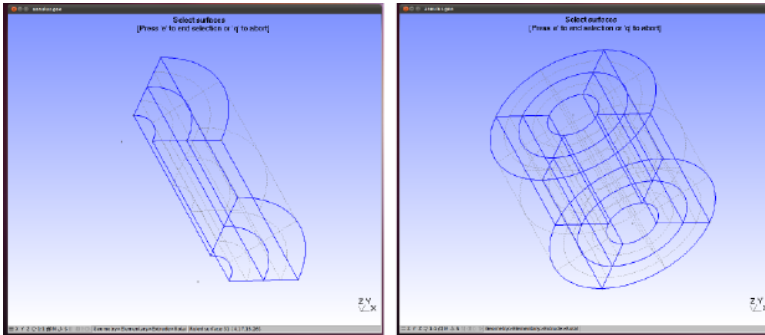

Figure 4:
4.) Pick both the surfaces on the graphic and press “e” (“e” is for adding the selection “u” is for undoing the last selection and “q” is for abort the mission.). A quarter of the annulus should have been formed in the graphic window, as shown in left panel of Figure 4.
Without changing the parameters in the “Contextual **Geometry** Definitions” window, pick the newly formed surfaces normal to the x- axis. And press the “e” key, to form half of the annulus. Repeat the procedure to form the complete annulus, shown in the right panel of Figure 4.